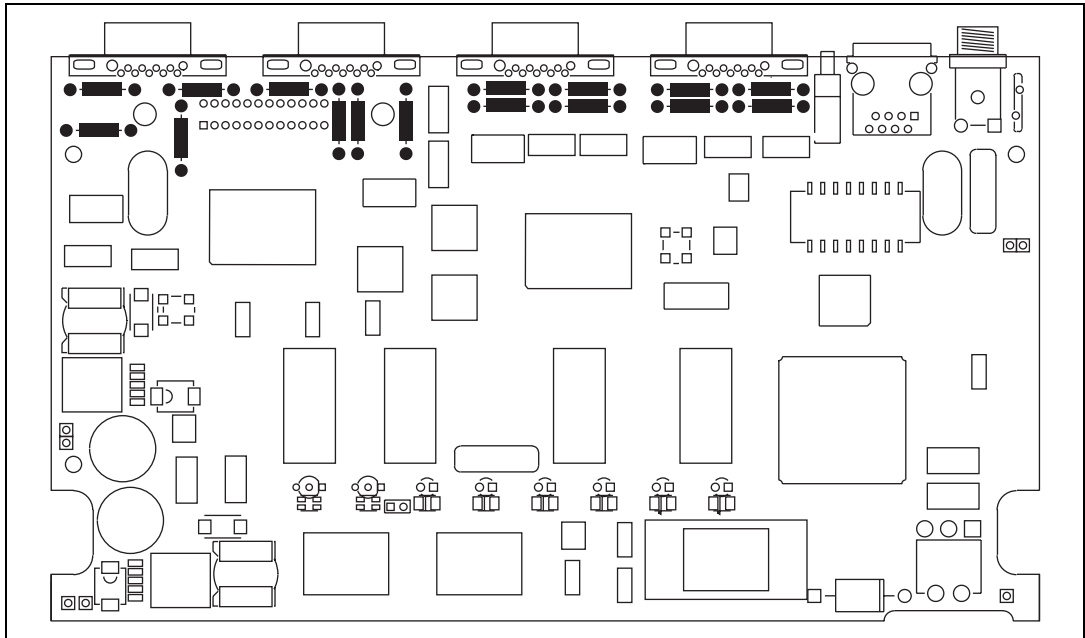

Figure 6-4. Location of Bias Resistors
3. Locate the bias resistors. Figure 6-4 shows the bias resistors as black rectangles and circles. Each port has four bias resistors.